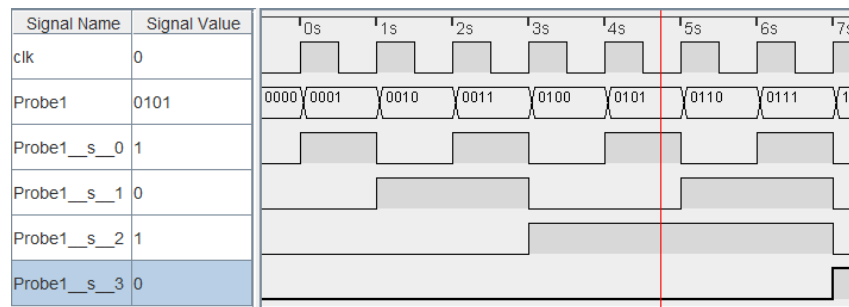

Figure 7.7: Timing Diagram for Up Counter
Logisim-Evolution can generate a timing diagram, called a *chronogram*, for a sequential circuit. That is a representation of the various signals in a circuit and how those signals change over time. Figure 7.7 is the timing diagram for an *Up* counter.
At the top of Figure 7.7 is a scale that indicates the number of seconds that the counter has been operating. The first trace is the input `clk` signal. The clock goes high at the start of each second and then goes low at the half-second mark. Under the clock is the “Probe1” signal. Because that is a four-bit number *Logisim-Evolution* displays the number, but under that number is a breakout of the four bits that make up that number. Thus, at time zero “Probe1” is 0001 and “Probe1__s_0” (that stands for “Probe 1, Signal 0”) is high while the other bits are low. The *Logisim-Evolution* chronogram includes a cursor indicated by a red line (found just before the five second tick in Figure 7.7) that can be placed anywhere along the diagram. The cursor sets the values of each signal in the area on the left edge of the diagram, so the cursor in Figure 7.7 is pointing to a spot where the `clk` is low, `Probe1` is at 0101, and so forth.
3. Set SIMULATE -> TICK FREQUENCY to 4 Hertz. This will simulate a clock that ticks once per second, as in Figure 7.7. While the